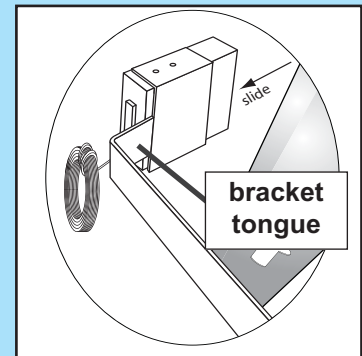

FIG. 4-3 Attach sensors to brackets.
- Slide source/sensor onto tongue of bracket until it clicks into place (Fig. 4-3).